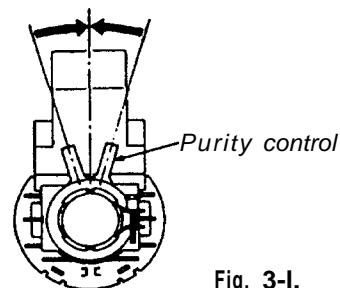

Fig. 3-1.
3. Loosen the deflection yoke mounting screw, and set the purity control to the center as shown in Figure 3-1.